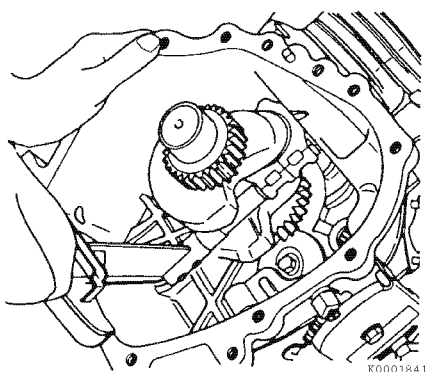

Figure 6-98
7. Apply a light coat of clean engine oil to the rod cap bolts. Install the connecting rod cap. Tighten the connecting rod bolts **Figure 6-98** to the specified torque in two stages as shown in chart below. See *Special Torque Specifications* on page 6-17 for specifications.